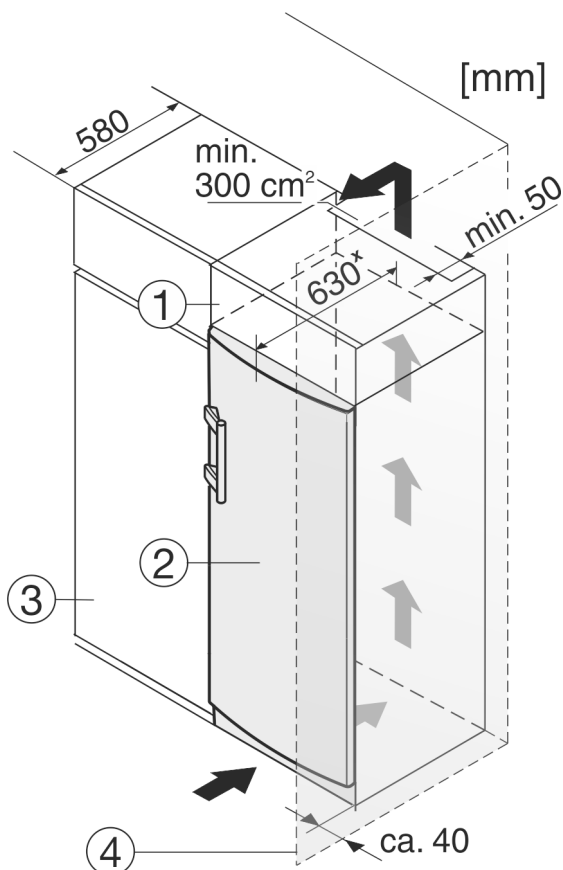

Fig. 12
The appliance can be built into kitchen units. A top cupboard Fig. 12 (2) can be added above the appliance in order to bring the appliance Fig. 12 (1) up to the height of the fitted kitchen units.
When fitting kitchen cupboards around the appliance (max. depth 580 mm), you can install the appliance directly next to the kitchen cupboard Fig. 12 (3). The appliance protrudes 34 mm \* to the side and 50 mm \* in the centre of the appliance in relation to the kitchen cupboard front.
If the appliance is set up with the hinges next to a wall Fig. 12 (4), the distance between the appliance and the wall must be at least 40 mm. This is how far the handle protrudes when the door is open.